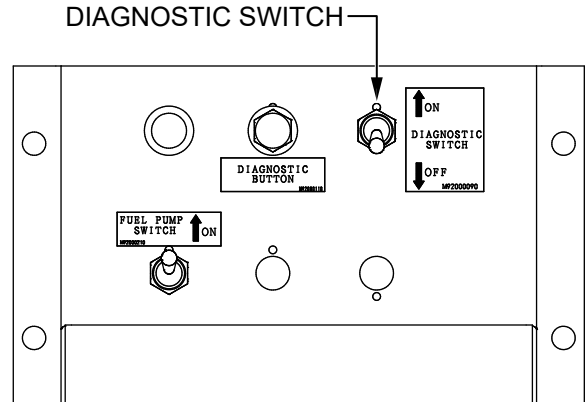

Figure 42. Diagnostic Switch (OFF Position)
- Make sure the **Diagnostic switch** (located inside the control box) is placed in the **OFF** position. See Figure 42. Make sure the control panel is closed properly before proceeding.